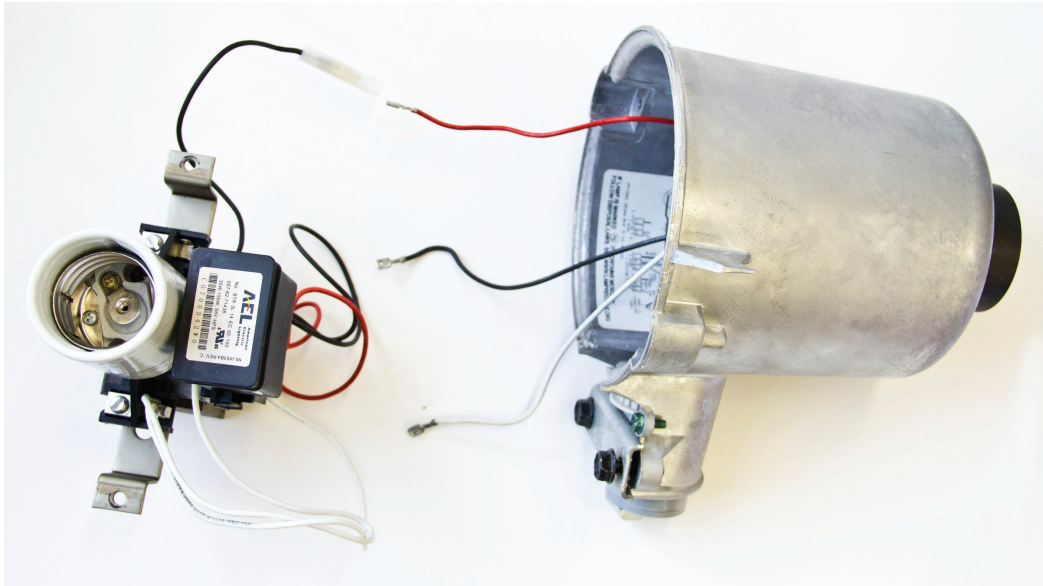

Figure 4. Remove the socket, ballast and starter from the housing.
3. Remove the socket, ballast and starter from inside the housing and set aside to recycle. See Figure 4. The interior of the fixture should be empty except for the photocell.